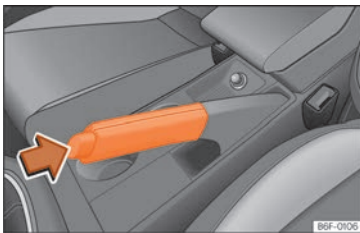

Fig. 168 Handbrake between the front seats.
- Pull the handbrake lever up >>> **Fig. 168**.
- Pull the lever up slightly and press the release knob in the direction of the arrow >>> **Fig. 168** and guide the handbrake lever down fully >>> **△**.